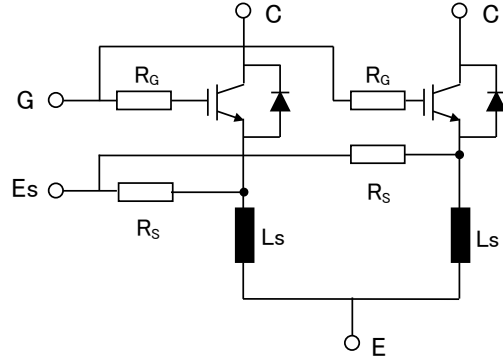

Figure 9-14. Measures to limit inductive current in emitter wiring
- Insert a low value resistance (e.g. 0.1Ω) or ferrite core in the emitter wiring of the gate drivers in case an inductive current flows in the loop of the main emitter wiring and the gate driver wiring. This loop current may cause a difference in the switching speeds between paralleled devices by influencing the instantaneous gate voltage. (Figure 9-14)